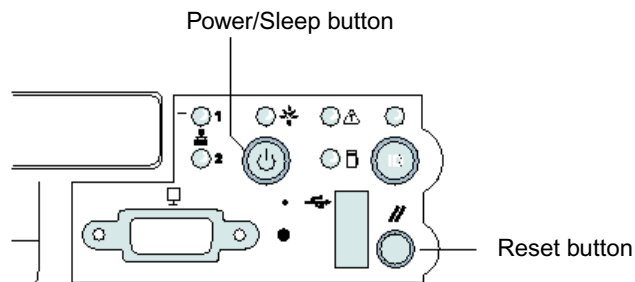

FIGURE 2-25 Sun Fire V60x Server Power and Reset Button Locations
a. Press the Reset button on the node (see FIGURE 2-25).